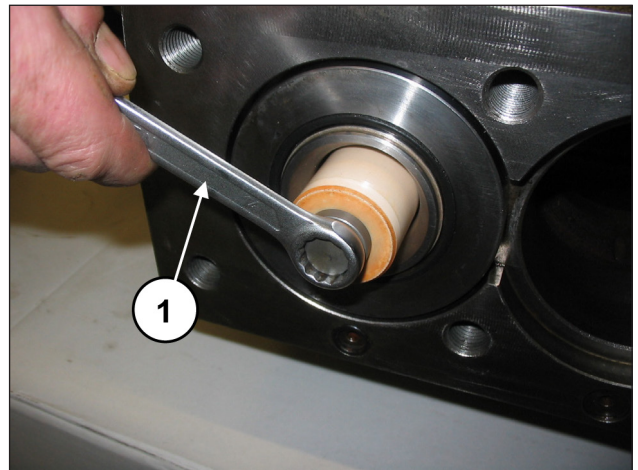

Fig. 138
Disassemble pistons unscrewing the fixing screws (pos. ①, Fig. 138).